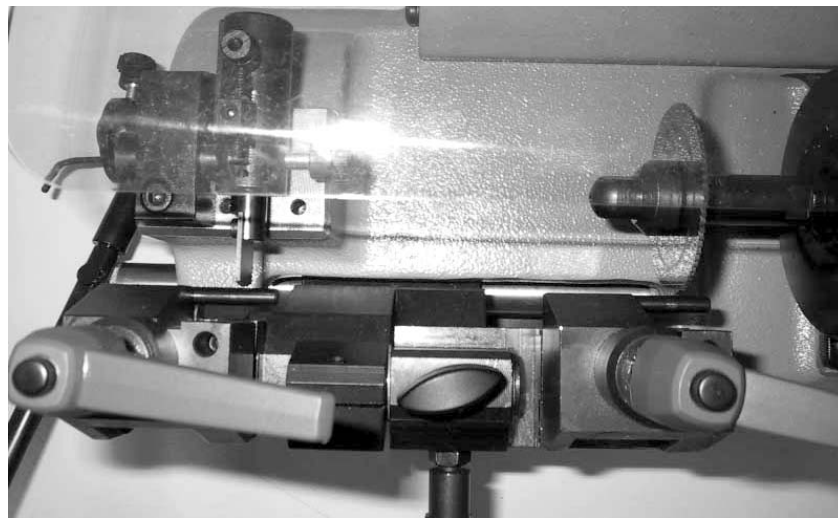

Fig. 8
- 1) Insert the supplied gauges horizontally in the clamp housings (fig.8).